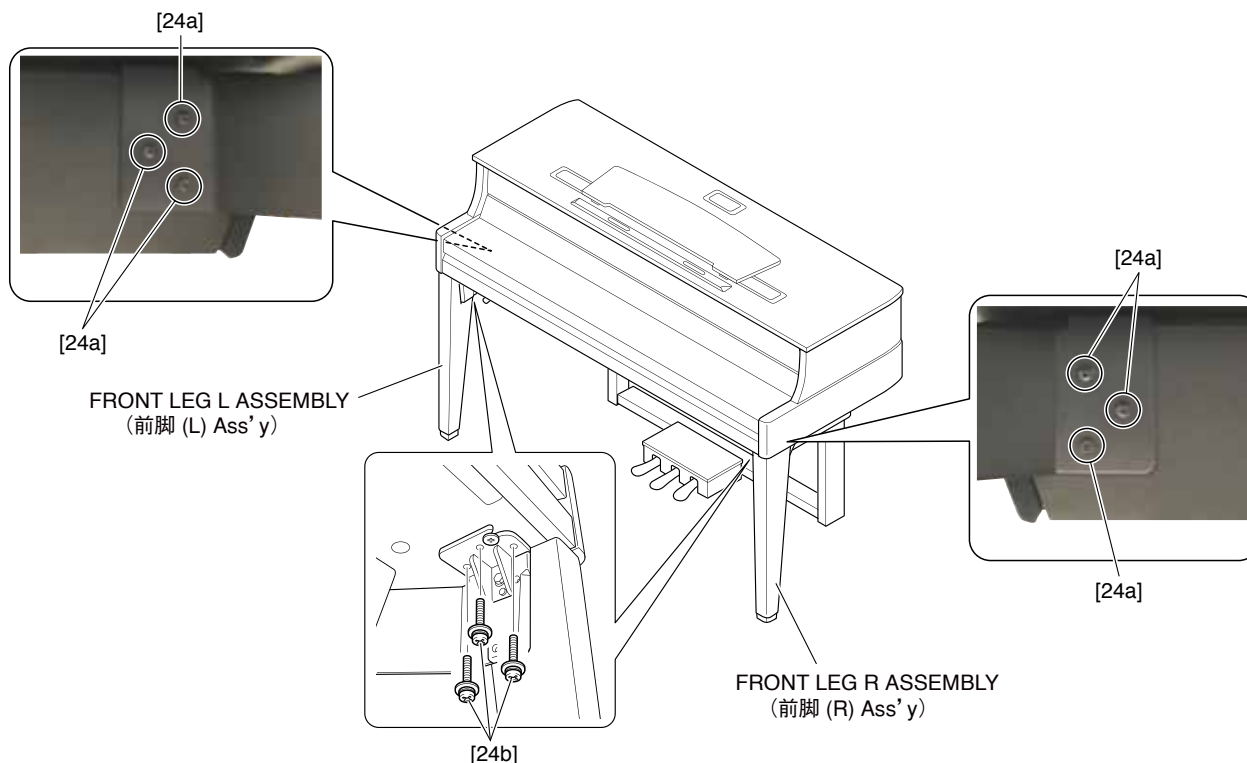

Fig. 28 (図 28)
33-1. Remove the three (3) screws marked [24a] and three (3) screws marked [24b]. The front leg L assembly can then be removed. (Fig. 28)
33-1. [24a] のネジ3本と [24b] のネジ3本を外して、前脚 (L) Ass'y を外します。(図28)